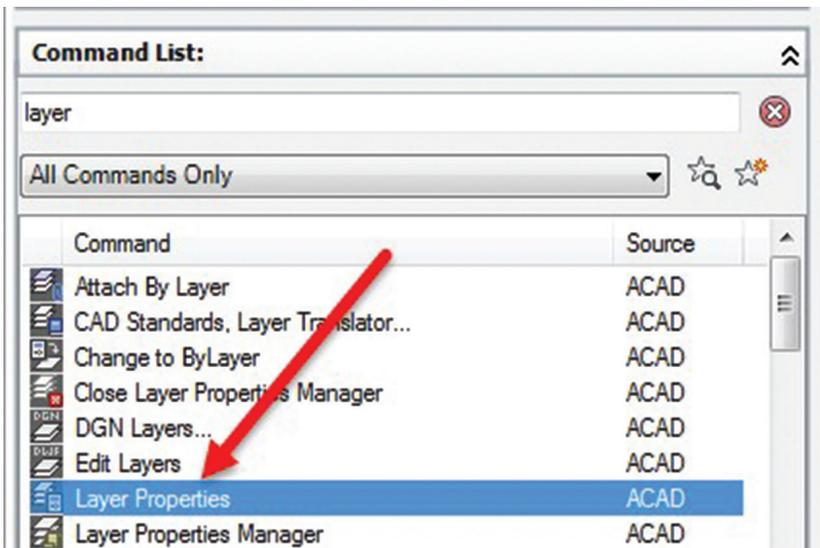

Figure 11
1. Type CUI at the command prompt then layer in the command list to get the command as shown in Figure 11.